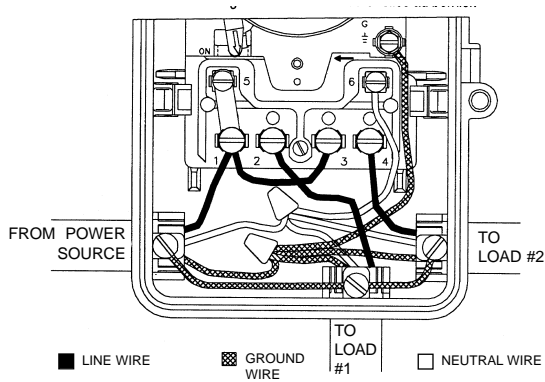

Figure 3
REFER TO FIGURE 3 ABOVE FOR FOLLOWING INSTRUCTIONS
- B. Install a jumper wire (use appropriate wire) from terminal 1 to terminal 3 (see figure 3). Once the jumper is in place, tighten terminals 1 and 3.